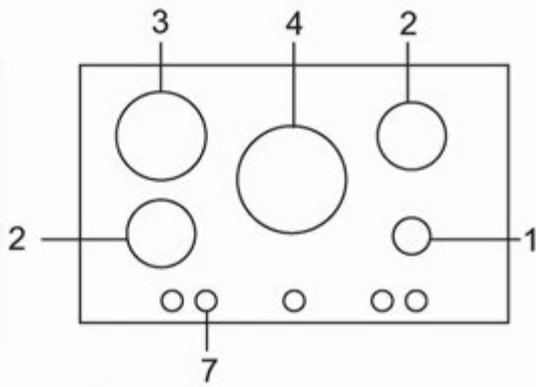

Fig.11A
- * GAS HOB TYPE GHFF70SS2 see Fig.11A
(Figs. 11A - 11N)